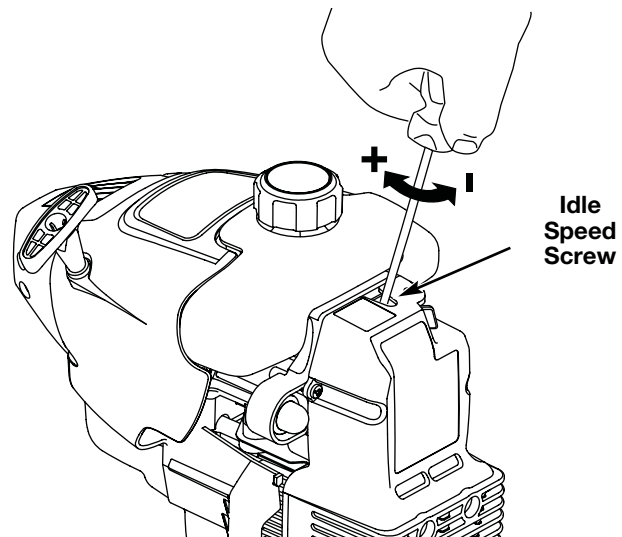

Fig. 20
The idle speed of the engine is adjustable through the air filter/muffer cover (Fig. 20).
2. Release the throttle trigger and let the engine idle. If the engine stops, insert a small phillips or flat blade screwdriver into the hole in the air filter/muffler cover (Fig. 20). Turn the idle speed screw in, **clockwise**, 1/8 of a turn at a time (as needed) until the engine idles smoothly.